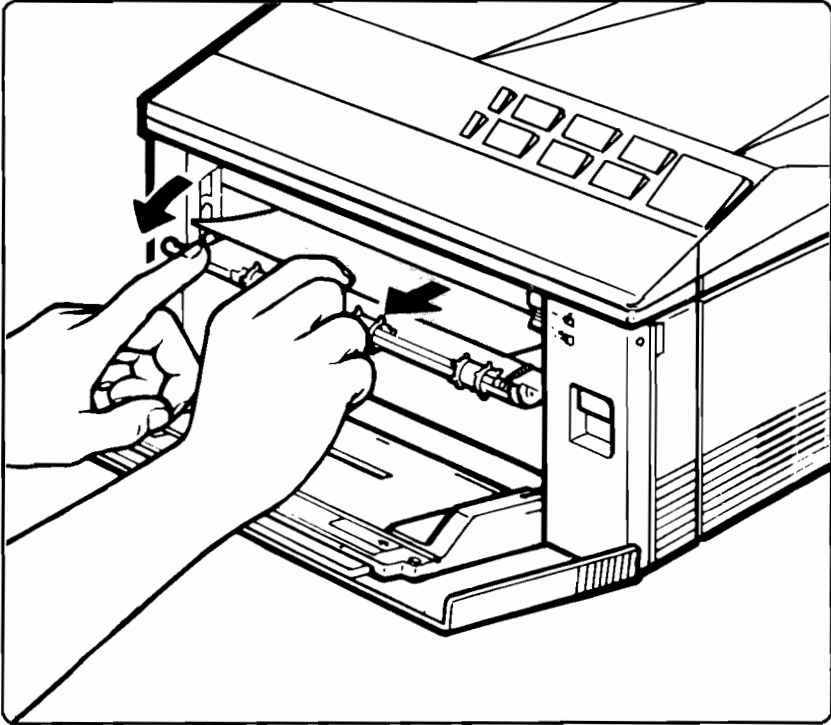

Figure 4-15. Clearing the External Fuser Access Door
4. After checking inside the printer for jammed paper, close the Paper Path Door. Open the External Fuser Access Door and check for jammed paper (see Figure 4-15).